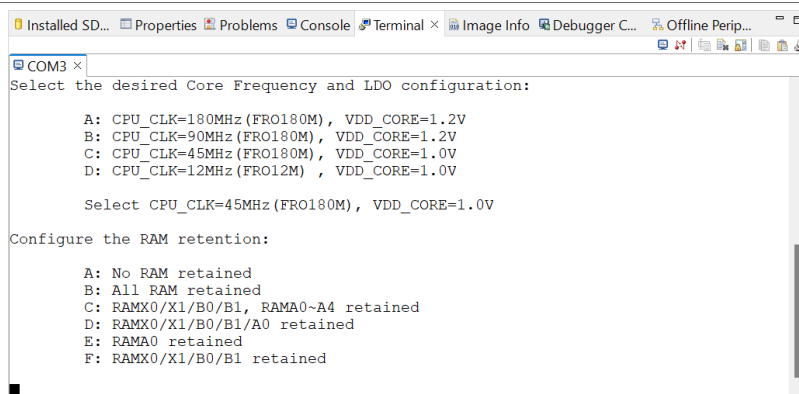

Figure 10. Select low power configurations
- 3. Different low power modes provide different configurations. Therefore, you must select the corresponding configuration according to the prompts. Figure 10 shows the configurations provided in Deep Power Down mode.